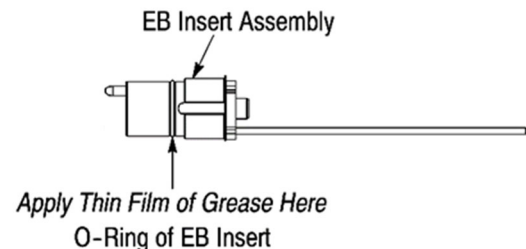

Figure 9
2. Align the end of the ferrule assembly with the appropriate channel cavity of the EB insert and insert the ferrule assembly into the channel cavity until the o-ring is against the back of the insert. See Figure 9, Detail A. To avoid damage to the fiber, DO NOT push on the fiber to install the ferrule assembly.
3. Slide the spring over the fiber until it is against the O-ring of the ferrule assembly. See Figure 9, Detail B.
4. Using the ferrule insertion tool, **push on the spring** until the ferrule assembly bottoms in the channel cavity (the spring will protrude slightly from the cavity). See Figure 9, Detail C.
5. Align the index pin hole of the ferrule plate with the index pin at the back of the EB insert, and slip the fiber into the closest slotted hole in the ferrule plate. See Figure 9, Detail D.
6. Hold the ferrule plate against the EB insert, making sure that the index pin enters the index hole. Thread the screw through the screw hole in the ferrule plate and into the hole in the EB insert. See Figure 9, Detail E. Using the 2-mm hex wrench and torque wrench or torque stand, tighten the screw to a torque between 0.8 and 1 N·m. Check to make sure that the ferrule plate is flush with the EB insert.
7. Using an applicator swab, apply a *thin film* of the grease around the O-ring of the EB insert. Refer to Figure 9, Detail F.
- Revised and added to the Detail illustrations in Figure 9 to include the use of the ferrule insertion tool for ferrule installation in Section 5.6. Steps 1 through 4.